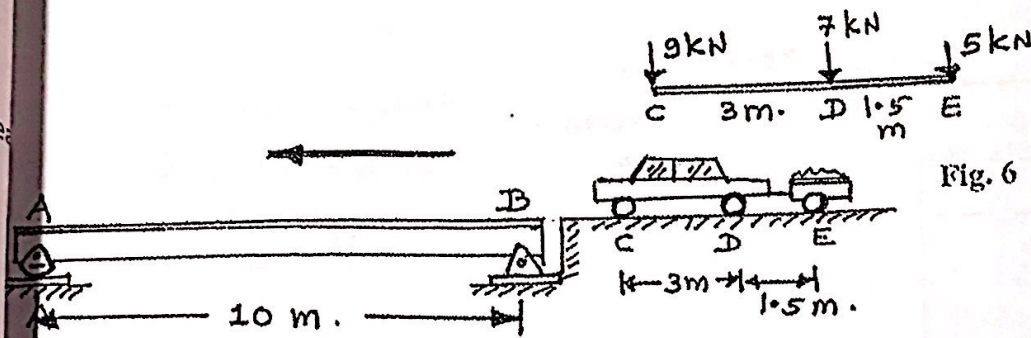

Fig. 6
Determine the absolute maximum Bending Moment in a Simply Supported beam. (girder), when the three wheel loads pass from right to the left on the girder. Support (A) is a roller & support (B) is a hinge. Refer (Fig. 6).